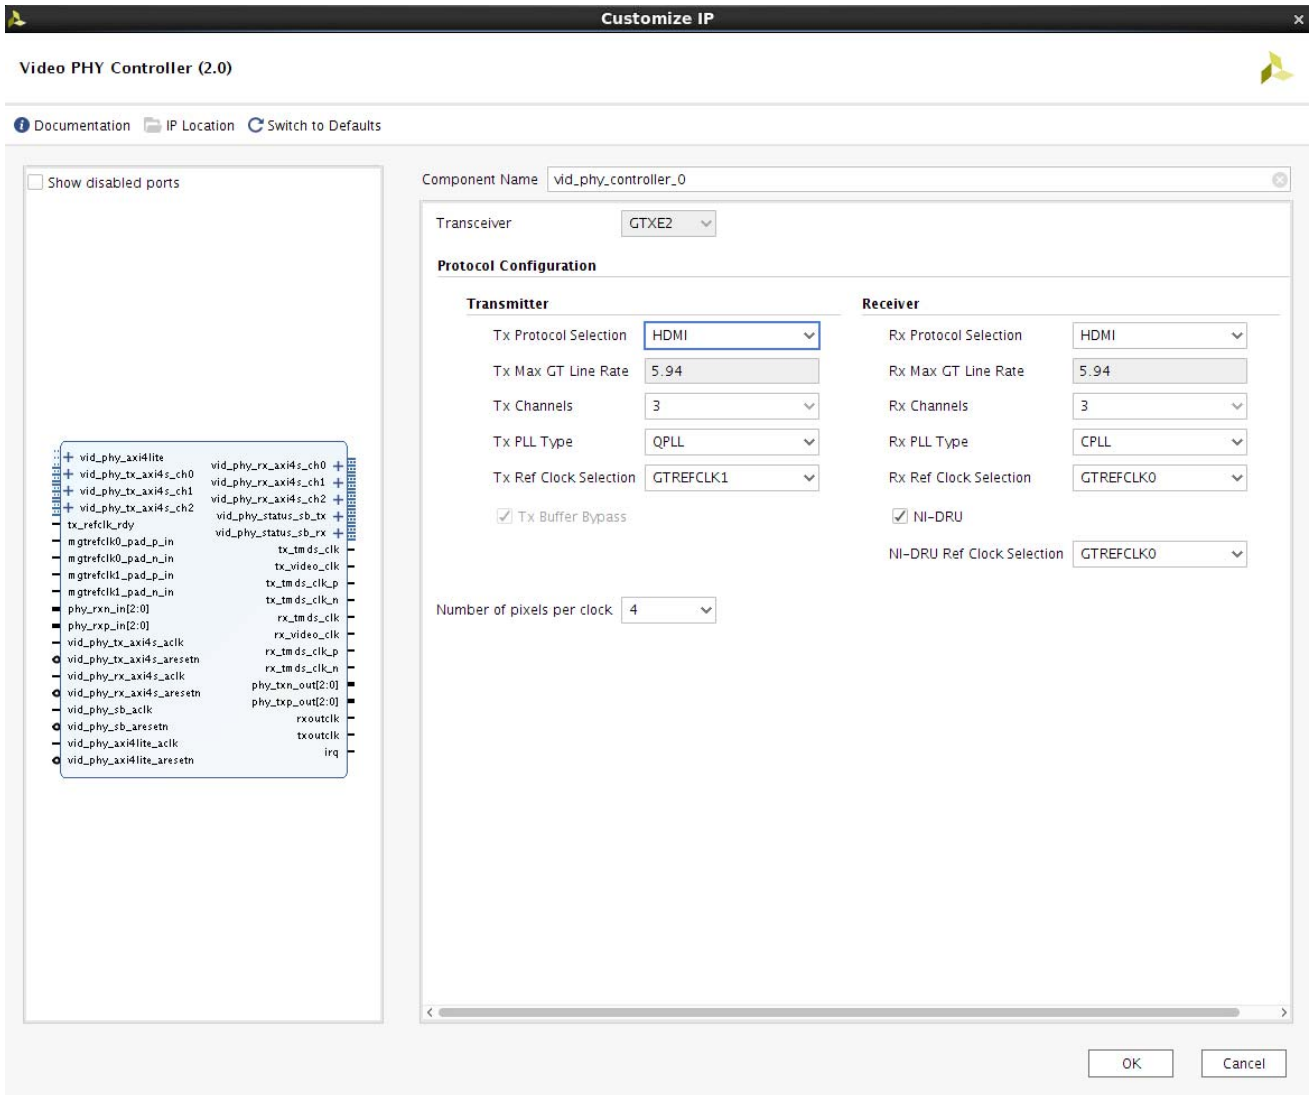
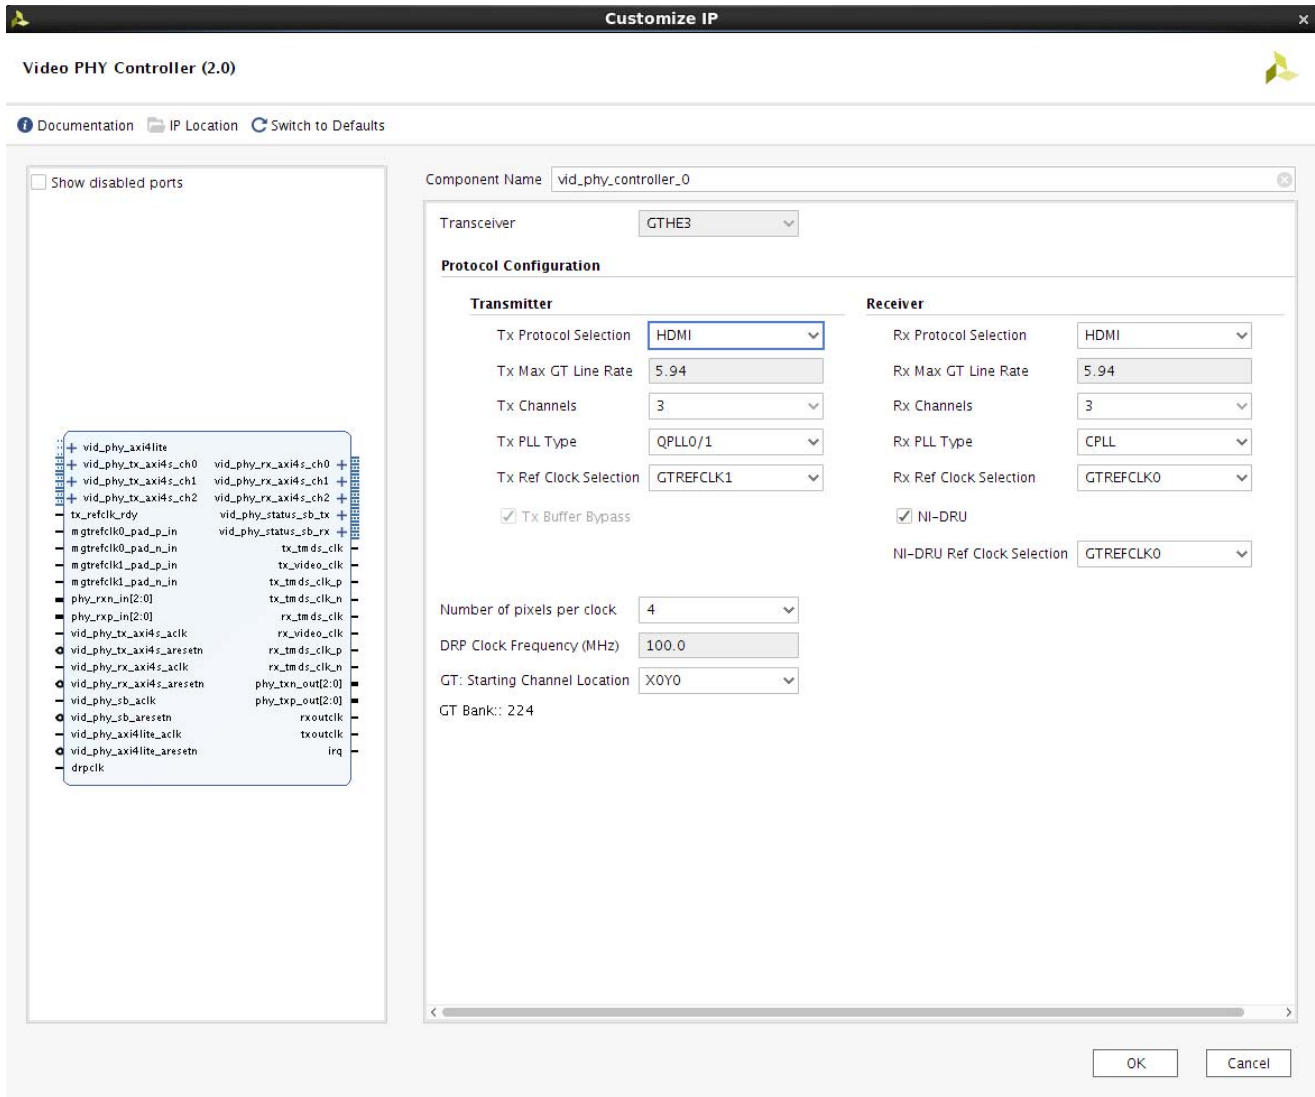

Figure 4-2: Vivado IDE – HDMI Protocol with GTPE2 and GTXE2 Transceivers
Figure 4-4: Vivado IDE – HDMI Protocol with GTHE3 and GTHE4 Transceivers
**Ni-DRU:** When checked, the NI-DRU is included in the core. (Option is displayed when HDMI protocol is selected for receiver. See Figure 4-2 or Figure 4-4.)
**Ni-DRU Ref Clock Selection:** Specifies the reference clock that corresponds to the NI-DRU. (Option is displayed when HDMI protocol is selected for receiver. See Figure 4-2 or Figure 4-4.)
**Number of pixels per clock:** Specifies the number of pixels for video clock generation. (Option is displayed when HDMI protocol is selected. See Figure 4-2 or Figure 4-4.)